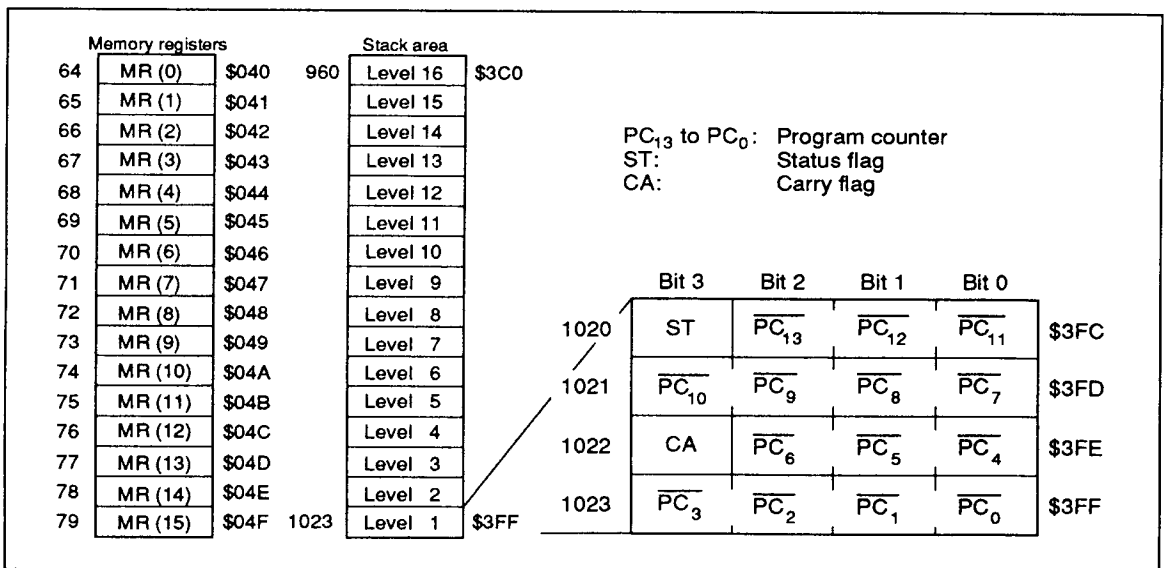

Figure 4 Configuration of Memory Registers, Stack Area, and Stack Position
Data Area (\$040 to \$2CF, \$100 to \$2CF; Bank 0/1): The 16 digits of \$040 through \$04F are called memory registers (MR) and are accessible by the LAMR and XMRA instructions (figure 4). 464 digits of \$100 through \$2CF are selected as bank 0 or 1 depending on the value of the V register.
Stack Area (\$3C0 to \$3FF): Locations \$3C0 through \$3FF are reserved for LIFO stacks to save the contents of the program counter (PC), status flag (ST), and carry flag (CA) when subroutine calls (CAL or CALL instruction) and interrupts are processed. This area can be used as a 16-level nesting stack in which one level requires 4 digits. Figure 4 shows the save condition. The program counter is restored by the RTN and RTNI instructions. The status and carry flags are restored only by the RTNI instruction. This area, when not used as a stack, is available as a data area.